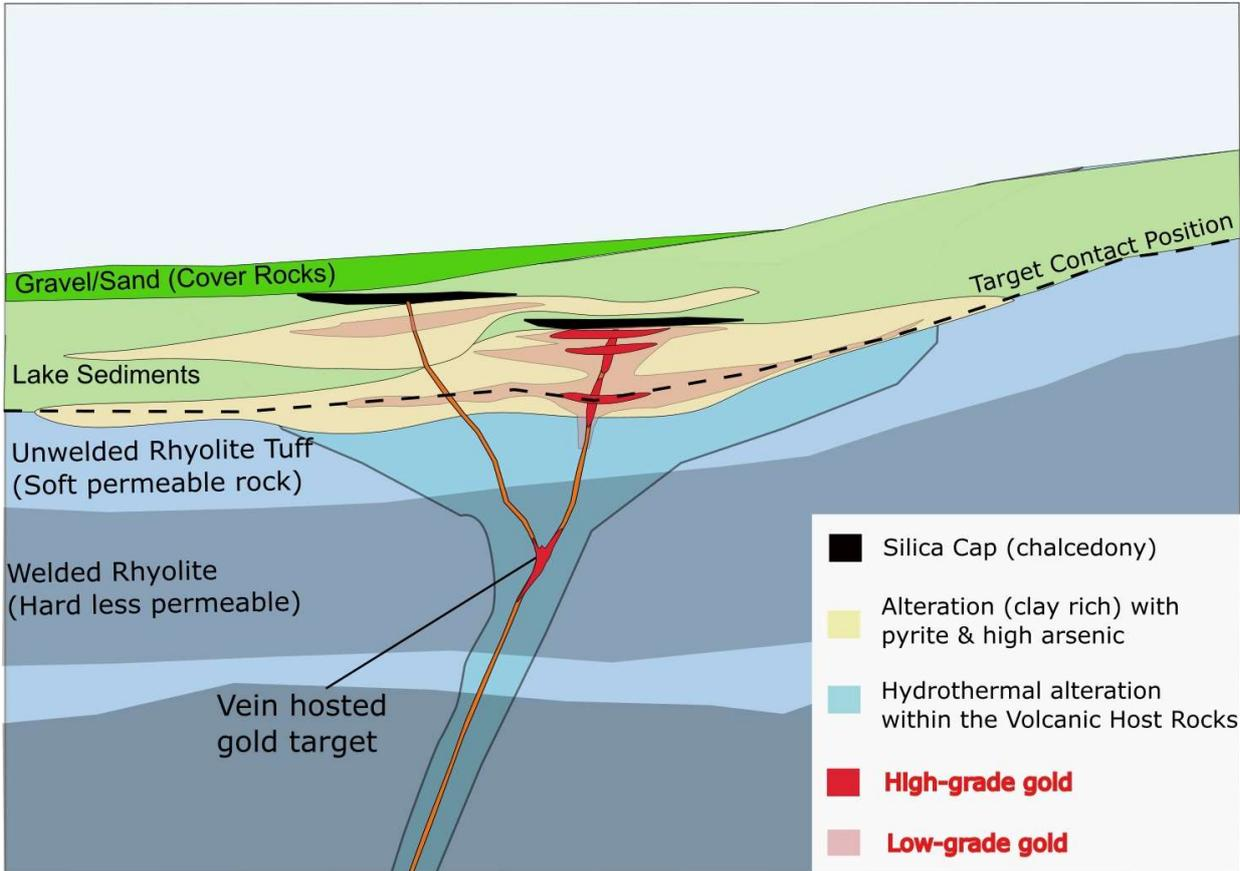

Figure 3: Schematic diagram representing the relative location of the high-grade and lower-grade gold mineralisation identified at Cameco.
- The first two drill holes from the Bells Project, located within the north-east portion of the current Mineral Resource estimate, have results in-line with the resource model and confirm the robust continuity of the gold mineralisation at this location (Figure 3).
Three holes for 433m were drilled at the Cameco Project during this RC drill program. Rex has identified that the bulk of the higher grade gold mineralisation at Cameco exists at the contact position between the Volcanic rocks and the overlying Lake Sediments. Figure 3 is a representative diagram designed to illustrate the relative position of this “target” contact position. We will release more detail following our ongoing interpretation of the current results and program.